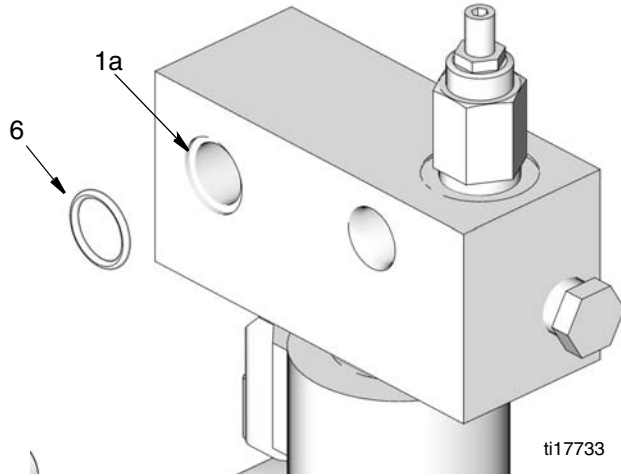

FIG. 4:
- Grease o-ring (6) and install in block opening (1a) as shown in FIG. 4.